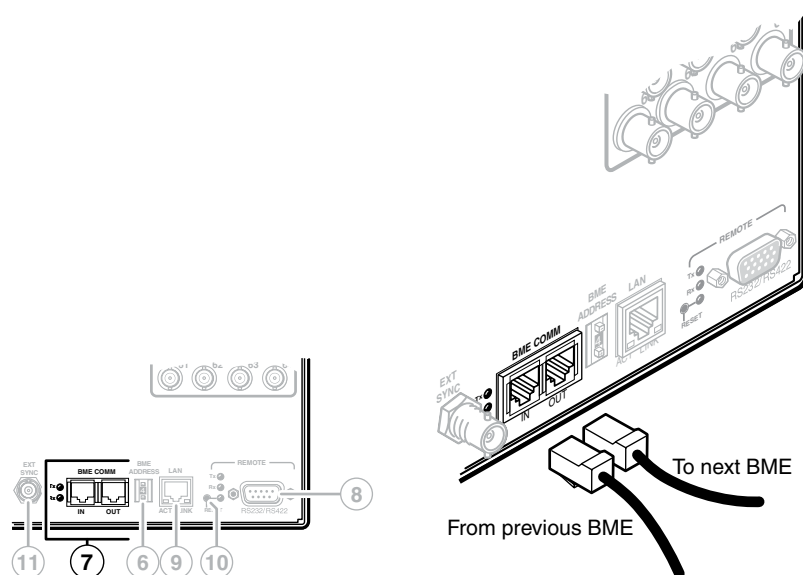

Figure 2-9 — Daisy-chaining BMEs (video BME shown)
- ⑦ **BME COMM interconnect ports** — If the matrix switcher system consists of more than one BME, the BMEs must be connected together in a daisy chain using Extron-supplied RJ-45 cables.
- Connect the first daisy chain from BME 0's BME Comm Out connector to the nearest BME's BME Comm In connector (figure 2-9). In a rack where BMEs are arranged so that their physical location matches the BME address numbering, this would be BME 1. But since not all systems are configured alike, call this module BME n .